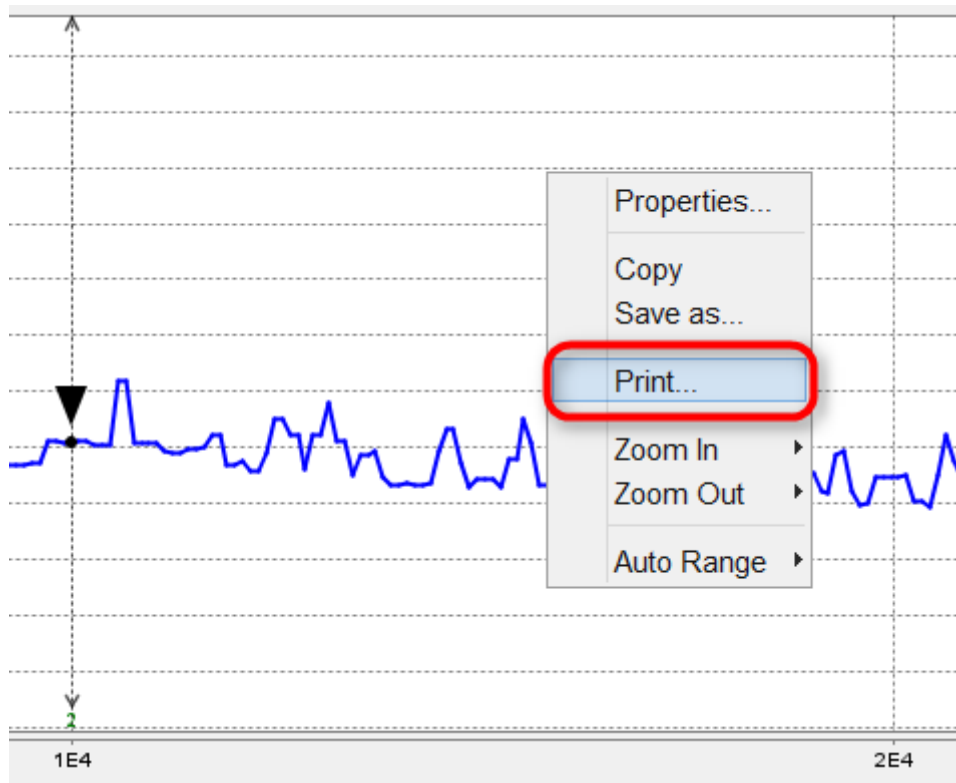

Figure 35: Zoomed-in trace and the Print option
- iv. Right click: Use the right mouse button on the plot area to print, save, and copy the plot (see Figure 35).